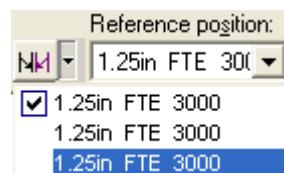

Figure 17: Branched Port Option in the Flip Drop-Down List
17. On the **Insert Component** ribbon, just before **Reference position**, there is a small drop-down arrow called the **Flip** drop-down list, where you can select the port to be used for the placement of a component. Click this arrow and select the third port, **1.25in FTE 3000**, as shown in Figure 17.